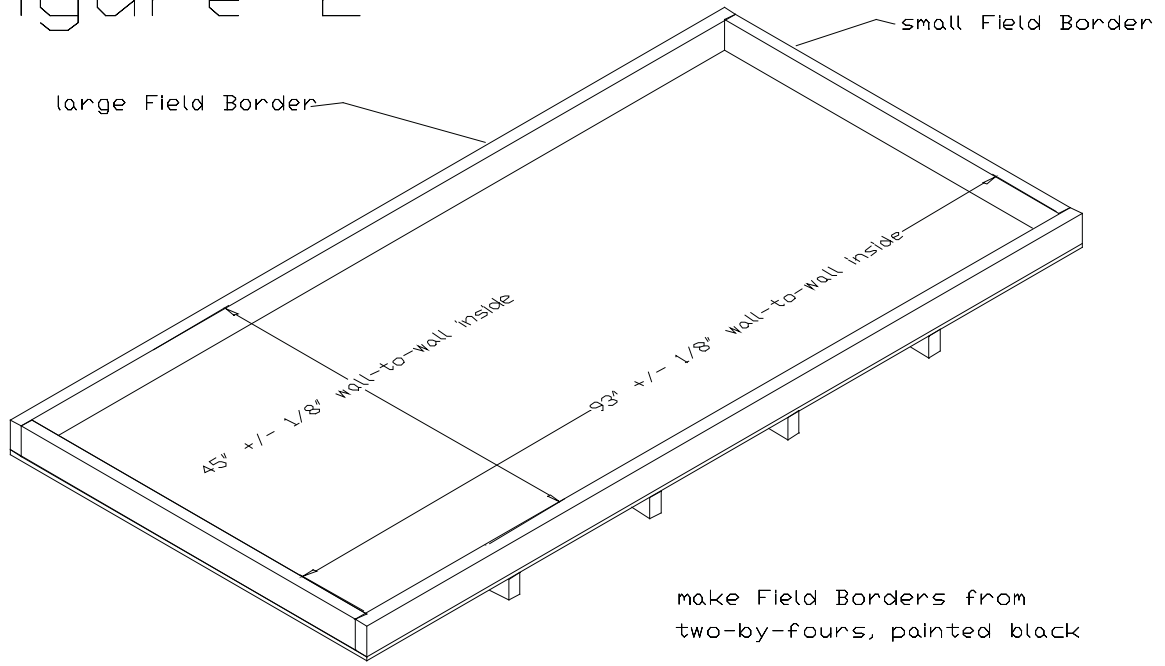

Figure 3
Step 3) Place the saw horses under the table and screw them on, located approximately as shown in Figure 3.